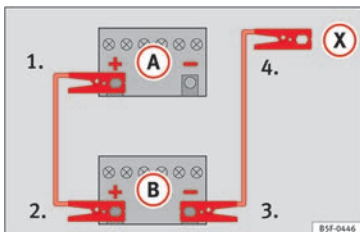

Fig. 89 Diagram of connections for vehicles without Start-Stop system.
2. Connect one end of the *red* jump lead to the positive (+) terminal of the vehicle with the flat battery **(A)** » **Fig. 89**.
- 4a. *For vehicles without Start-Stop system:* connect one end of the *black* jump lead to the negative terminal (-) of the vehicle providing the current **(B)** » **Fig. 89**.